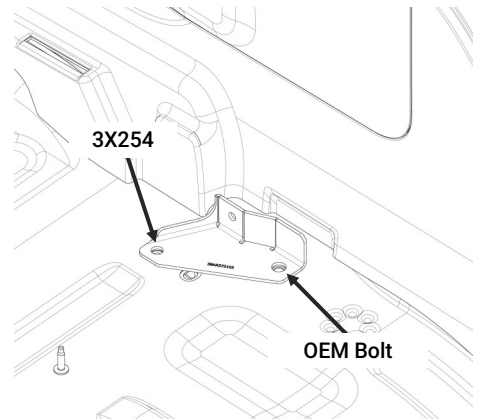

Figure 2
3. Start the OEM bolt removed in step 1. back into the hole it was removed from and start (1) of the M10 socket cap screws [3X254] into the corresponding hole in the floor (Figure 2).
5. Repeat steps 1. - 4. for the passenger side using the Passenger Lower Barrier Bracket [3BAR572103] and another (1) M10 socket cap screw [3X254].